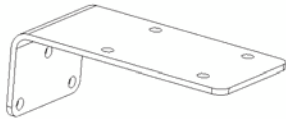

Fig. 1
1. Mark the location the WhiteBoard™ screen will be installed and drill your holes for all Top Hanging Wall Brackets (**fig. 1**) and Bottom Frame Hanging Brackets (**fig. 2**)
2. Attach the Top Hanging White Board Brackets (**fig. 3**) to the Top Hanging Wall Brackets (**fig. 1**) with the Butterfly Screws according to the size of the WhiteBoardScreen™ as specified in **fig. 4 and 5** below.
3. Next, affix the Top Hanging Wall Brackets (**fig. 1**) and the Bottom Frame Hanging Brackets (**fig. 2**) to the drilled locations and install the wall screws (**fig. 6**).